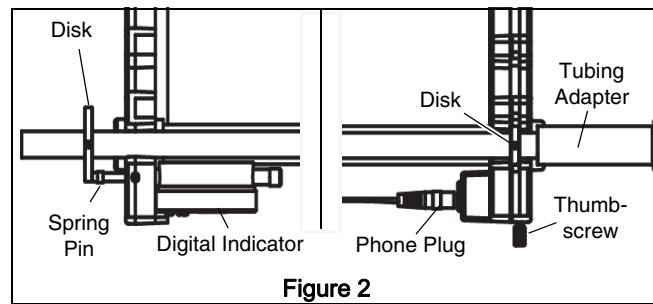

Figure 2
- Mount the aluminum tube in the apparatus frame as shown in Figure 2. The smaller circular disk on the tube fits into a slot on the "high" end frame. The larger circular disk on the tube presses against the tip of the spring arm of the dial indicator.